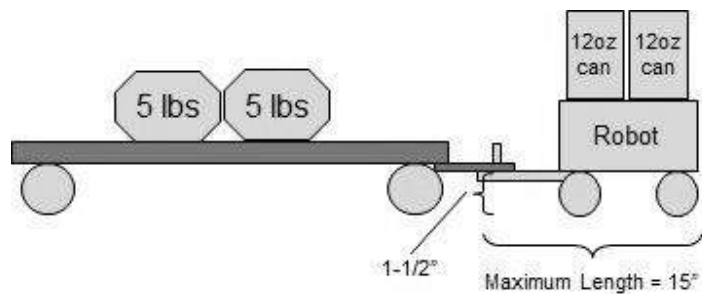
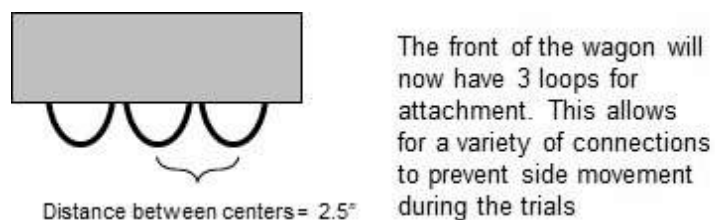

Figure 16 - Robot and Cart Configuration - side view
Figure 17 - Cart Loop Configuration
- i) The wagon will have **three solid loops** at 1-1/2 inches from the ground at the center front of the wagon for use in attaching to the robot. The loop will have an inside diameter of at least 1-1/2 inches and will not be thicker than 3/8 of an inch. The middle loop will be on center with the wagon and the outlying loops will be 2.5" on-center to the left and right of the center. We use 1-5/8" diameter, 1/4" thick U bolts (available at hardware stores). (see Figure 16 and Figure 17)
- i) Each robot shall have TWO (2) trials at each weight limit to successfully cross the finish line
- (1) Each trial may not exceed 60 seconds from the time the robot crosses the start line to the time it crosses the finish line, or it will be disqualified (marked INC)
- (2) The official may call a trial (cancel and mark INC) if: